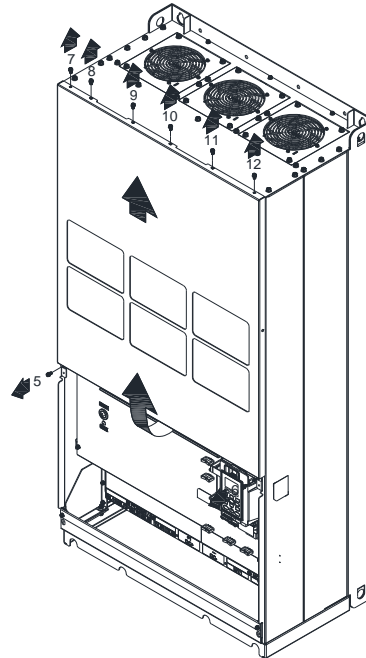

Figure 2
2. Loosen the screw 5-12 and remove the top cover (figure 2). Screw torque: 24-26kg-cm / [20.8-22.6 lb-in.] / [2.4-2.5 Nm]